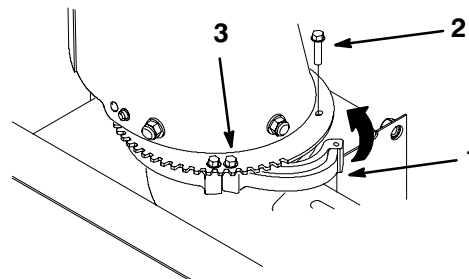

Figure 12
5. Rotate the loose chute retainer inward onto the chute ring and secure it with a No. 10-4 x 5/8 inch (1.5 cm) screw (Fig. 12).
6. Tighten the other screw to secure the chute retainer (Fig. 12).